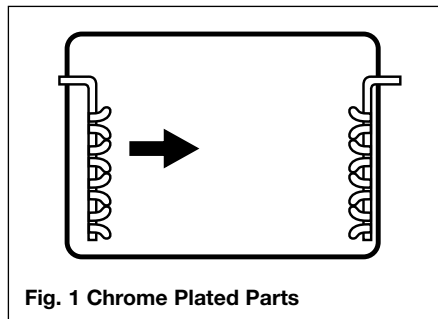

Fig. 1 Chrome Plated Parts
- Note: When positioning the pan support, ensure that the fingers are central to the burners (Fig 1).
Chrome plated parts (Fig 1)
Do not use abrasives or polishes. Use a moist soap pad, eg; Brillo. Shelf runners can be removed for cleaning. Grasp the runners and slide out of the hanging holes as shown in fig 1.